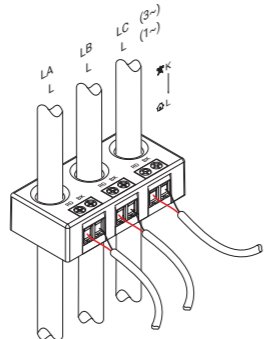

Fig. 3 Shelly 3CT63 installation overview
- Connect the stripped ends of the 3 signal cables to the corresponding Shelly 3CT63 terminals following the RD-BK (Red-Black) color marking as shown in Fig. 3.
- Thread the LA, LB, and LC phase wires, which carry the currents you want to measure, through the conductor apertures of Shelly 3CT63. For a single-phase setup, thread the Live wires (L) through the conductor apertures (Fig. 3).